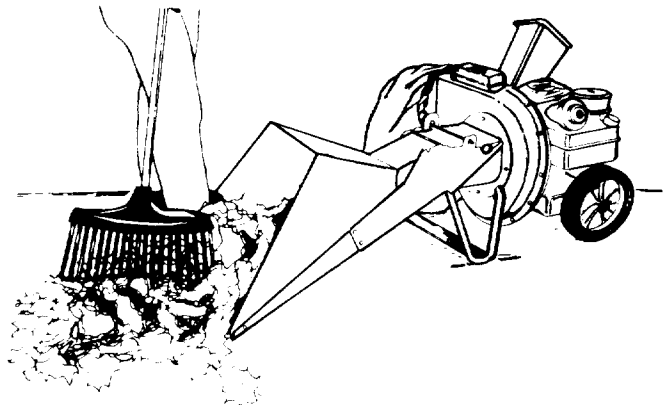
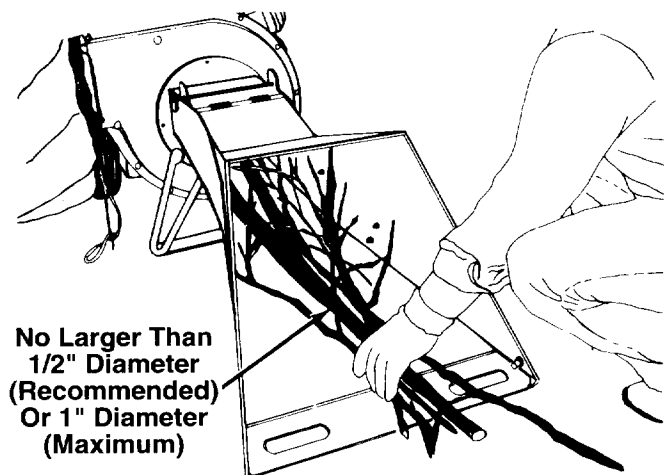

FIGURE 8.
FIGURE 9.
- Leaves and small twigs can be raked into the hopper assembly when the hopper assembly is lowered to the ground. See figure 8. Small branches up to 1/2" diameter (recommended) or 1" diameter (maximum) can also be fed into the hopper assembly in this position. See figure 9.